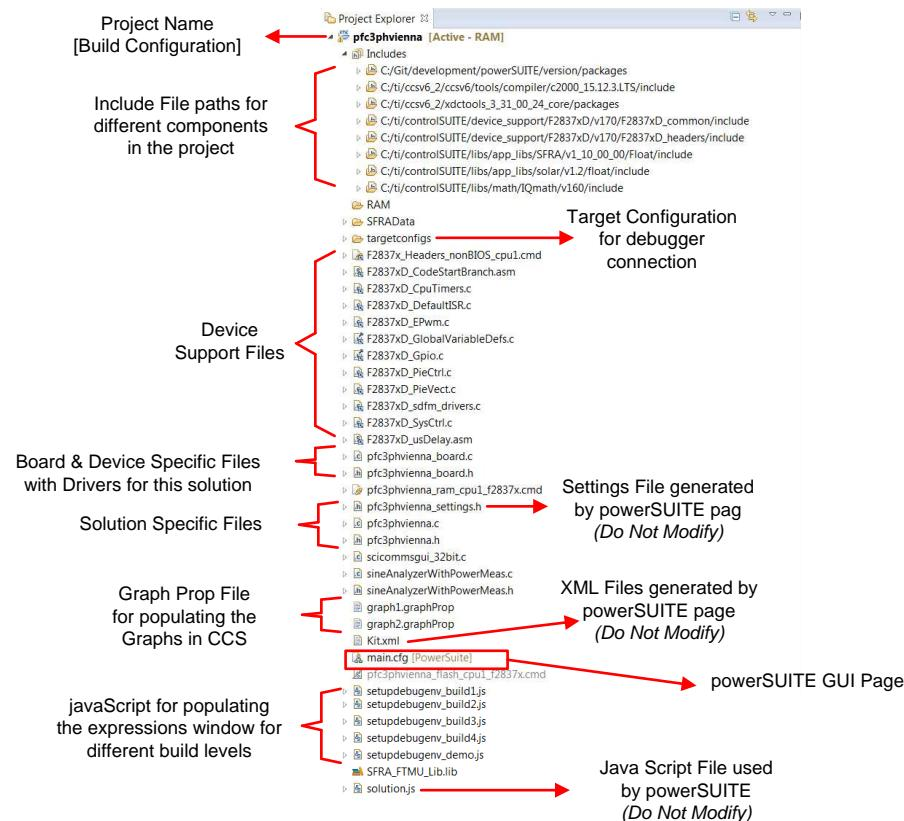

Figure 19. Project Explorer View of Solution Project
Once the project is imported, the project explorer will appear inside CCS as shown in Figure 19.
3. In the *Project Explorer* make sure the correct target configuration file is set as Active under *tragetconfigs* (Figure 19).